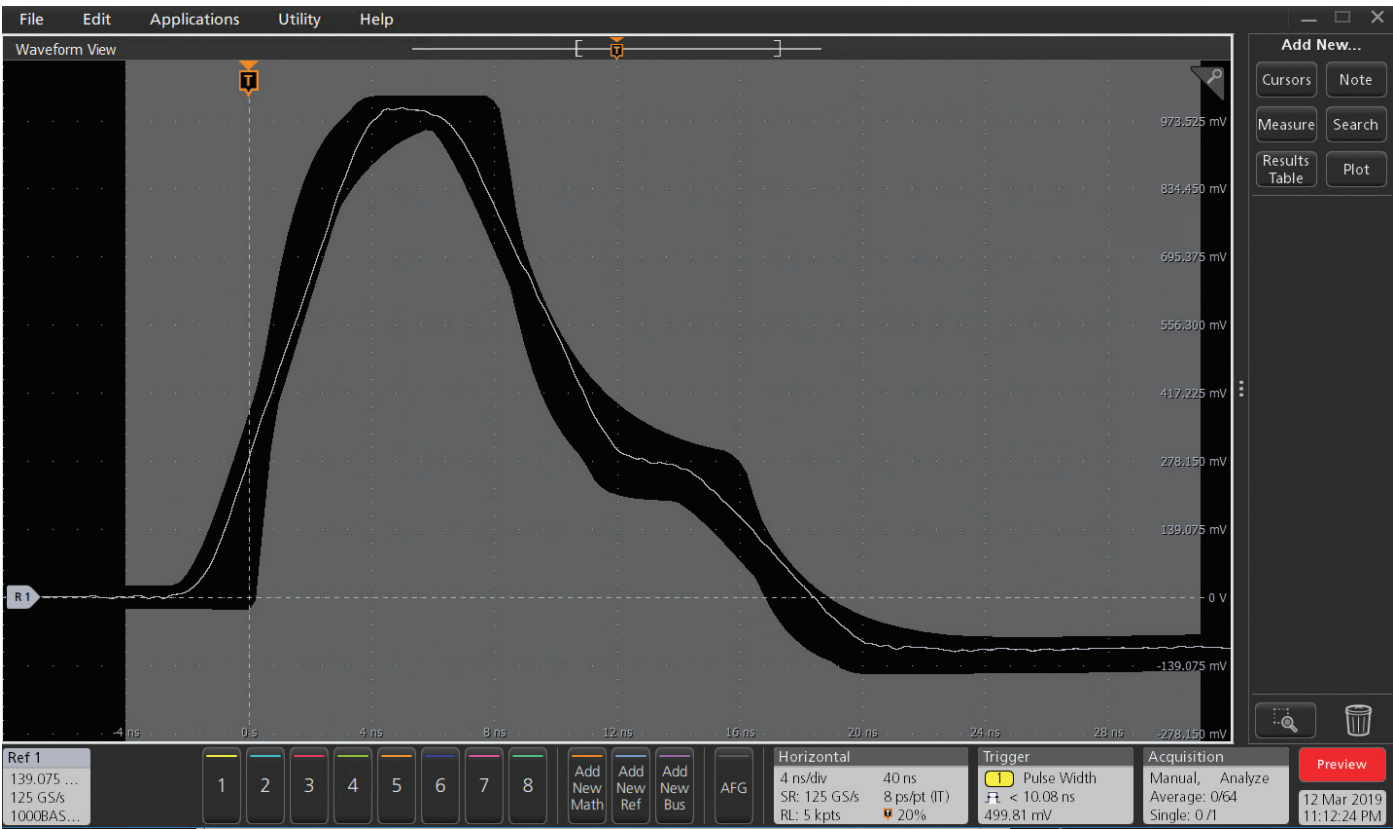
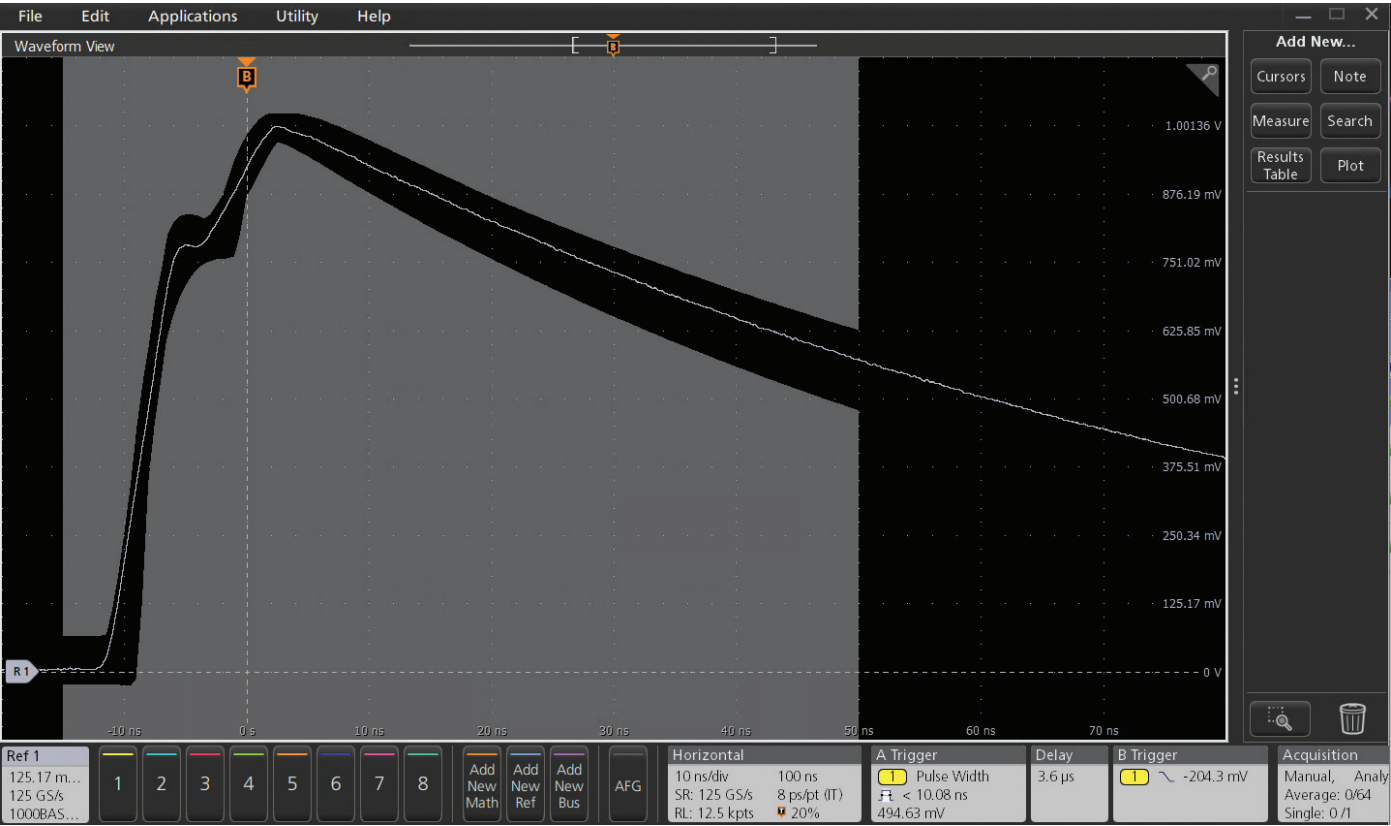

Figure 7. Template test at point A compares the normalized waveform to the mask defined in the standard.
Figure 8. Template test at point F compares the normalized waveform to the mask defined in the standard.
**Figure 7** shows the passing results of a template test at point A, and **Figure 8** shows the passing results of a template test at point F.